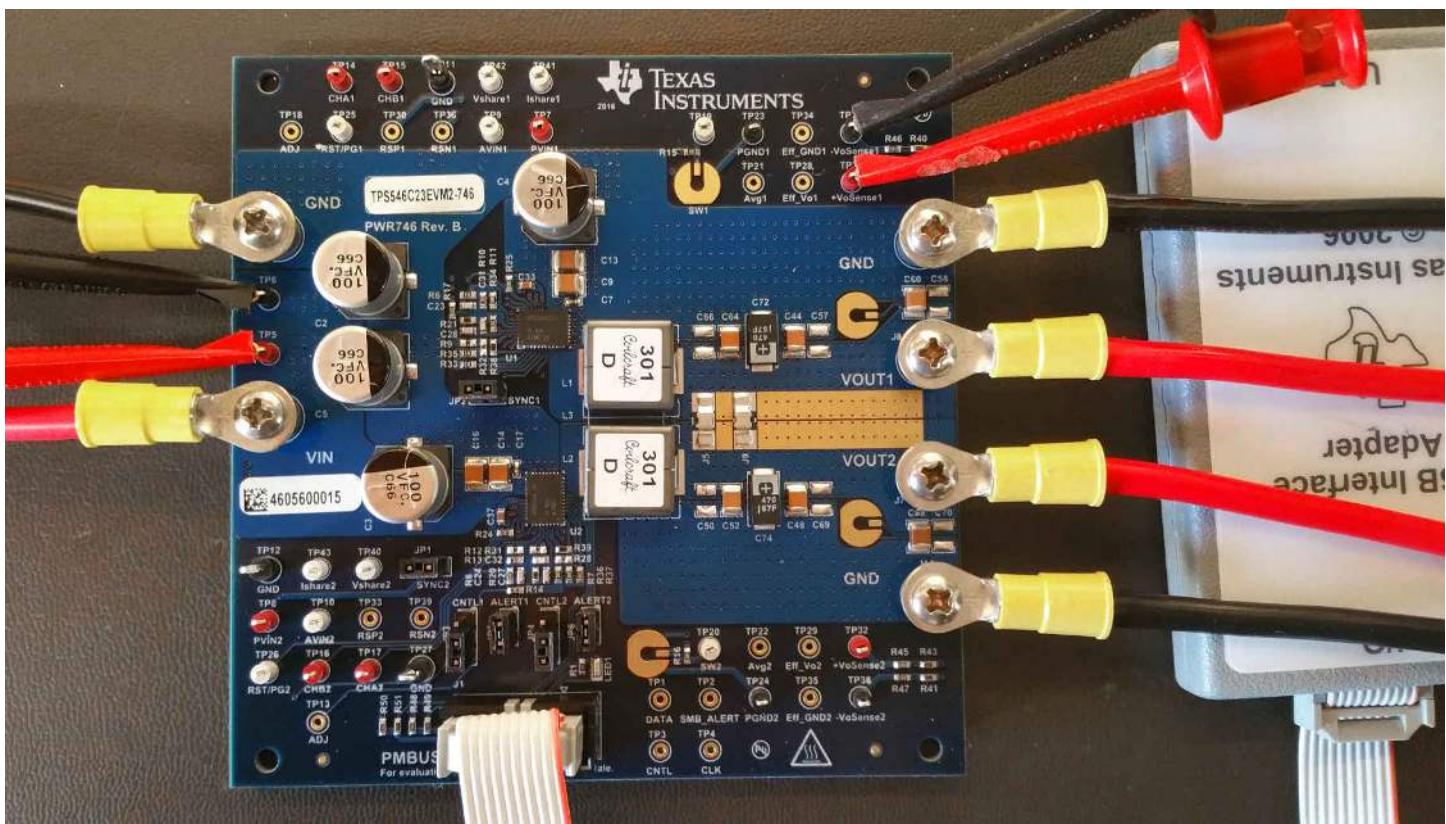

Figure 4-1. TPS546C23EVM2-746 EVM Recommended Test Setup
(1) The output current  $I_{OUT}$  can be up to 80 A, if the output overcurrent limit ( $I_{OUT\_OC\_FAULT\_LIMIT}$ ) is set to 45 A.
(2) The efficiency is measured based on Figure 4-1 and test setups, which includes power loss caused by on board copper traces.
The input voltage source  $V_{IN}$  should be a 0-V to 20-V variable DC source capable of supplying 20 ADC. Connect input VIN and GND to J2 and J3 as shown in Figure 4-1.
It is recommended to use two separate multi-meters as shown in Figure 4-1: one meter to measure  $V_{IN}$ , the other to measure  $V_{OUT}$ .
A variable electronic load is recommended for the test setup as shown in Figure 4-1. The load should be capable of 80 A.
Figure 4-1 shows the recommended test setup.